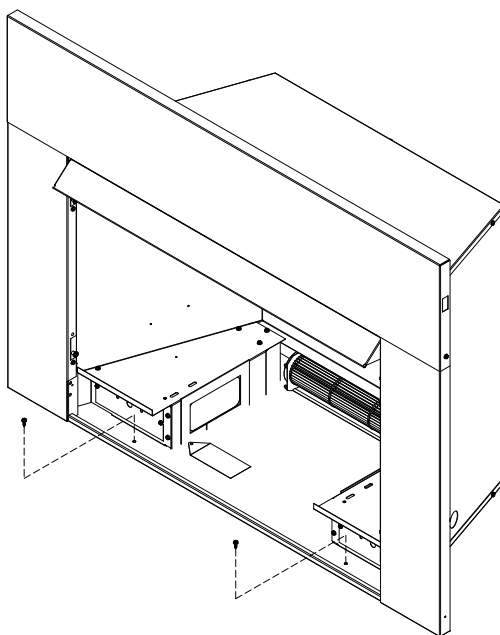

Figure 15. Secure Firebox to Floor or Hearth
3. Secure the firebox with two anchoring screws ($\frac{3}{16}$ " x $1\frac{1}{2}$ " length) supplied with the fireplace system. **Figure 15.**